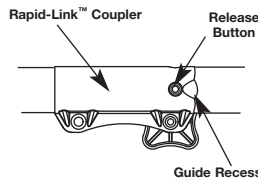

Fig. 1
2. Press and hold the release button (Fig. 1).
**NOTE:** Aligning the release button with the guide recess will help installation (Fig. 1).